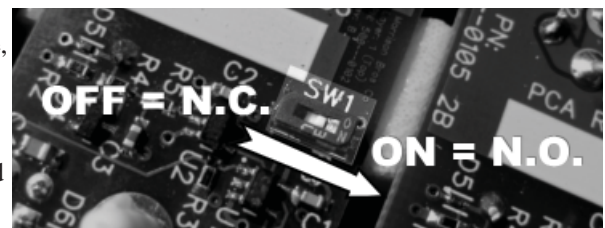

Figure 6 - Configuring Input Mode with SW1
- a. **For Normally Open Contact Input Devices:** If the input device to be connected to a particular Dry Contact Input Module utilize normally open contacts, verify that the DIP switch on that module, SW1, is in the “ON” position (see Figure 6).
- b. **For Normally Closed Contact Input Devices:** If the input device to be connected to a particular Dry Contact Input Module utilizes normally closed contacts, place the DIP switch on that module, SW1, in the “OFF” position (see Figure 6).